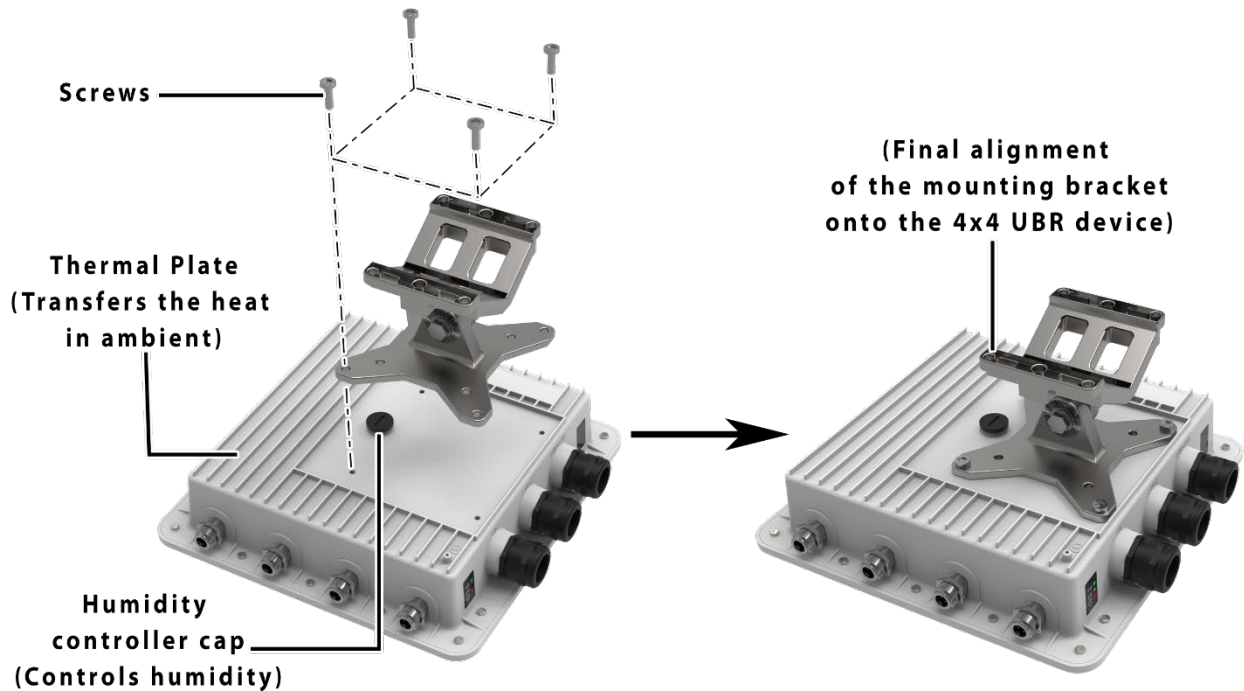

Figure 73: Mounting bracket alignment with the 4x4 UBR device
1. Attach the mounting bracket to the back side of the UBR device as shown in “Figure 73: Mounting bracket alignment with the 4x4 UBR device”.